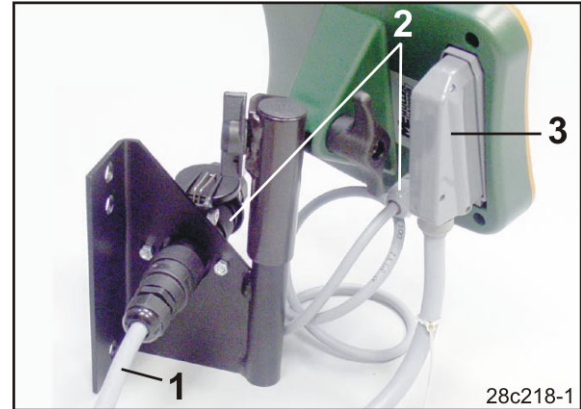

Fig. 13
2. Insert the power cable (Fig. 13/1) into the bracket and the 12V tractor socket.
3. Connect the bracket and the control terminal with the power cable (Fig. 13/2).
5. Route the implement cable (Fig. 13/3) into the tractor cab and insert the implement plug in the control terminal.